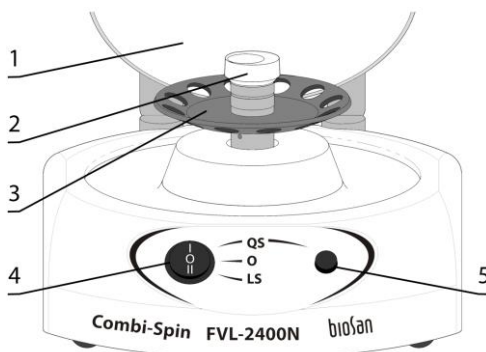

Figure 2. FVL-2400N
5.3.2 **Operation in the quick centrifugation mode.** Open the lid (fig. 2/1). Insert tubes in the rotor sockets, maintaining balance. Close the lid. Switch the power switch (fig. 2/4) into position **I** (**QS**, quick spin). Press and hold the **QS** key (fig. 2/5) for quick
5.3.3 **Operation in the vortexing mode.** Empty the rotor and close the lid. Switch the power switch into position **I**. While gently holding the tube, press the bottom part of the tube in the vortex head cavity (fig. 2/2). Press and hold the **QS** key for vortexing. After releasing the key, the rotor stops automatically. Switch the power switch into position **O**.